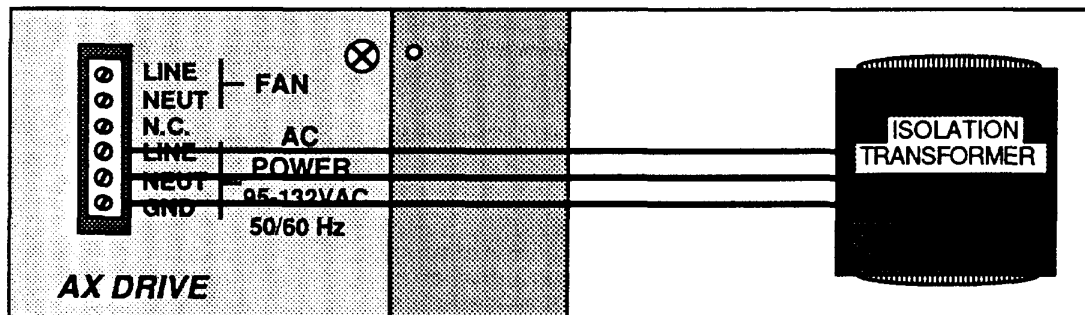

Figure 2-3. Transformer Connections (Optional)
Refer to the transformer user guide to determine which output leads correspond to LINE, NEUTRAL, and GROUND. As illustrated in Figure 2-3, connect the transformer leads to the AC power connector on the drive.
*NOTE: If you are using an isolation transformer, be sure to connect the transformer's output AC line, neutral, and ground to the proper terminals on the AX Drive power/fan connector (see Figure 2-3).*